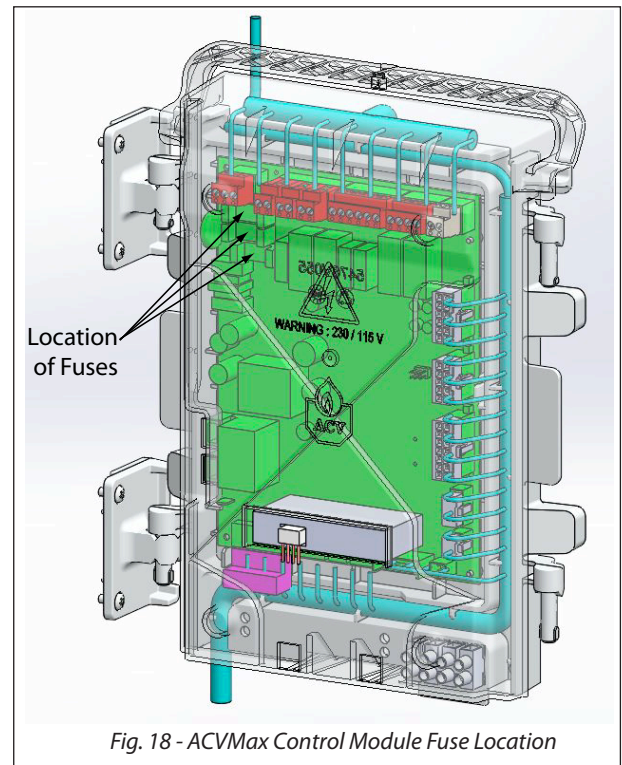

Fig. 18 - ACVMax Control Module Fuse Location
- The ACVMax control module contains 3 internal replaceable 5A fuses as shown in *Figure 18 below*.